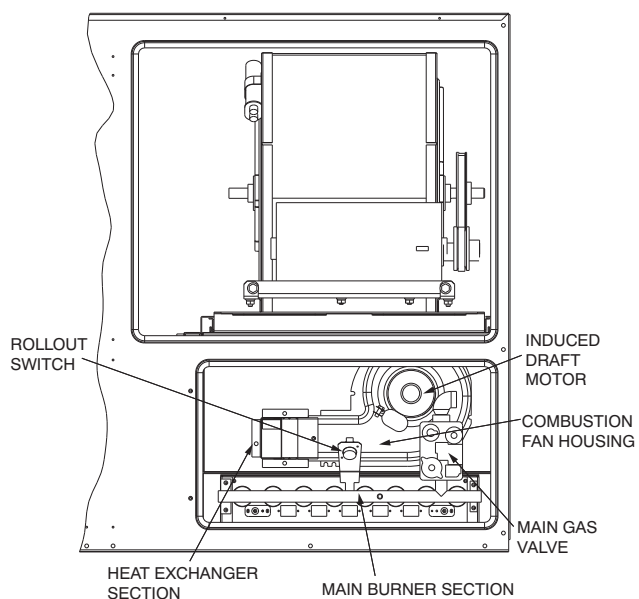

Fig. 2 - Typical Gas Heating Section
3. Set the switch on the main gas valve to the OFF position. (See Fig. 2.)